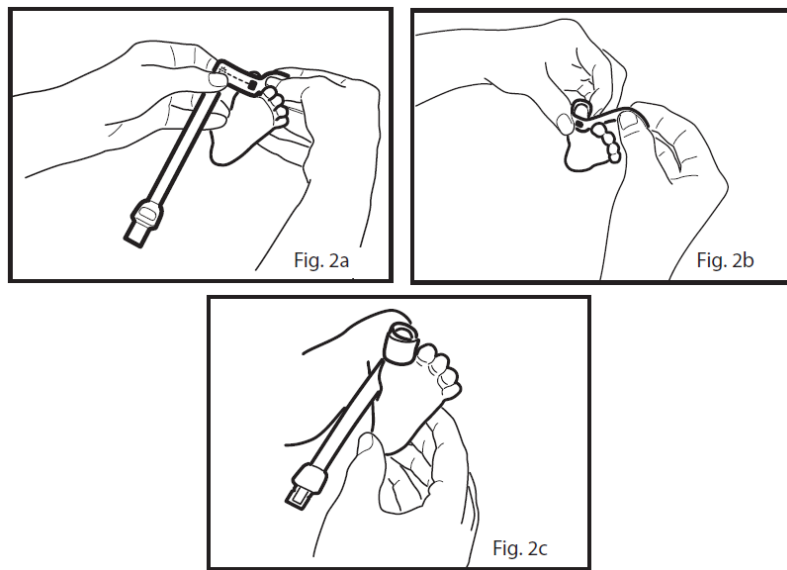

Fig. 21 RD SET Sensor Application for Infants 3-20 kg
- 2 See Fig. 2a in Fig. 21: Direct the sensor cable so that it runs along the top of the foot. Position the detector on the fleshy pad of the great toe. Alternatively, the toe next to the great toe, or the thumb can be used (not shown).
- 3 See Fig. 2b in Fig. 21: Wrap the adhesive wrap around the toe so the emitter is positioned on the nailbed of the great toe. Complete coverage of the detector window is needed to ensure accurate data.
- 4 See Fig. 2c in Fig. 21: Ensure that the emitter window (red star) aligns on the top of the toe directly opposite the detector. Verify correct positioning and reposition if necessary.